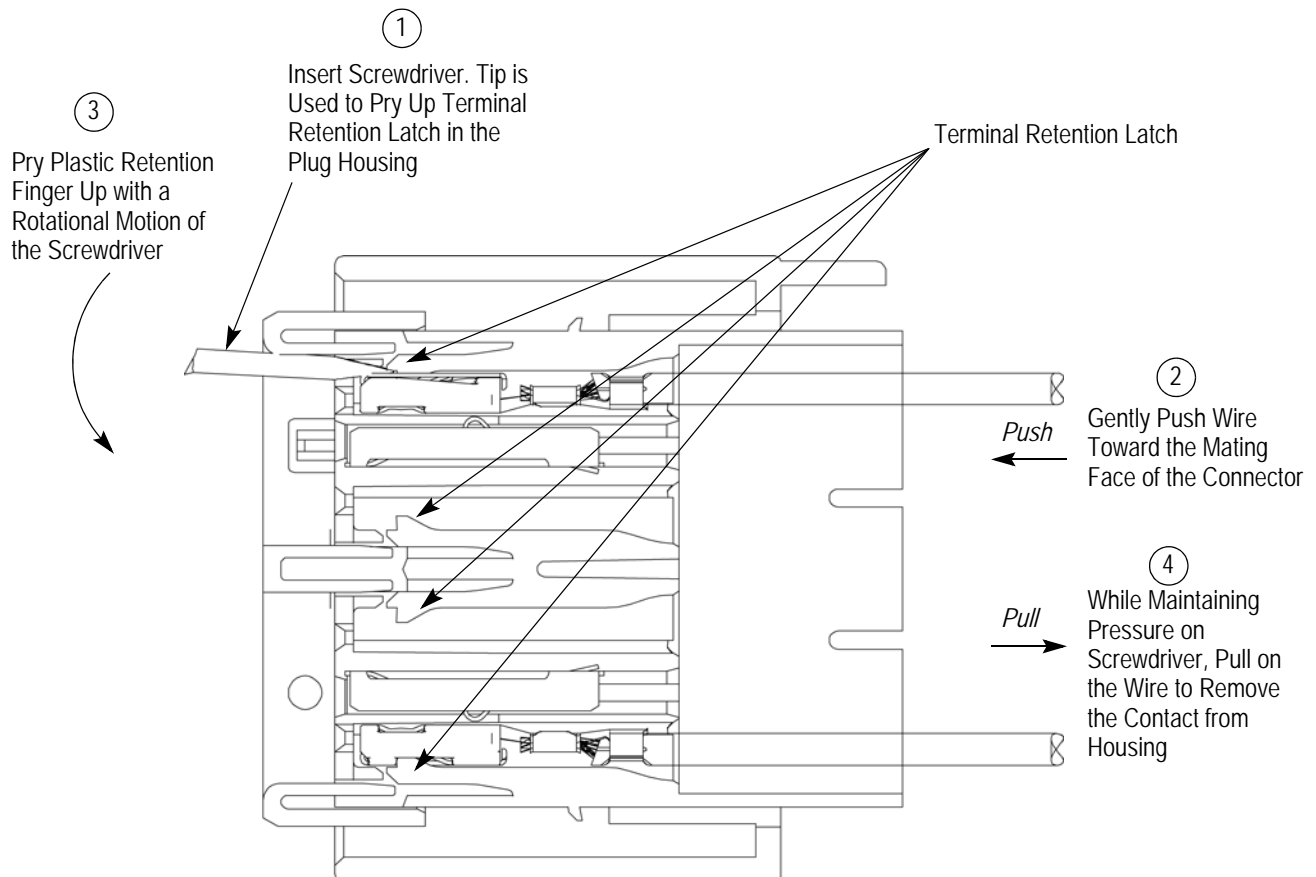

Figure 12
5. Using the 0.8 - 1.0 mm flat-blade screwdriver, gently deflect the retention finger. See Figure 12.